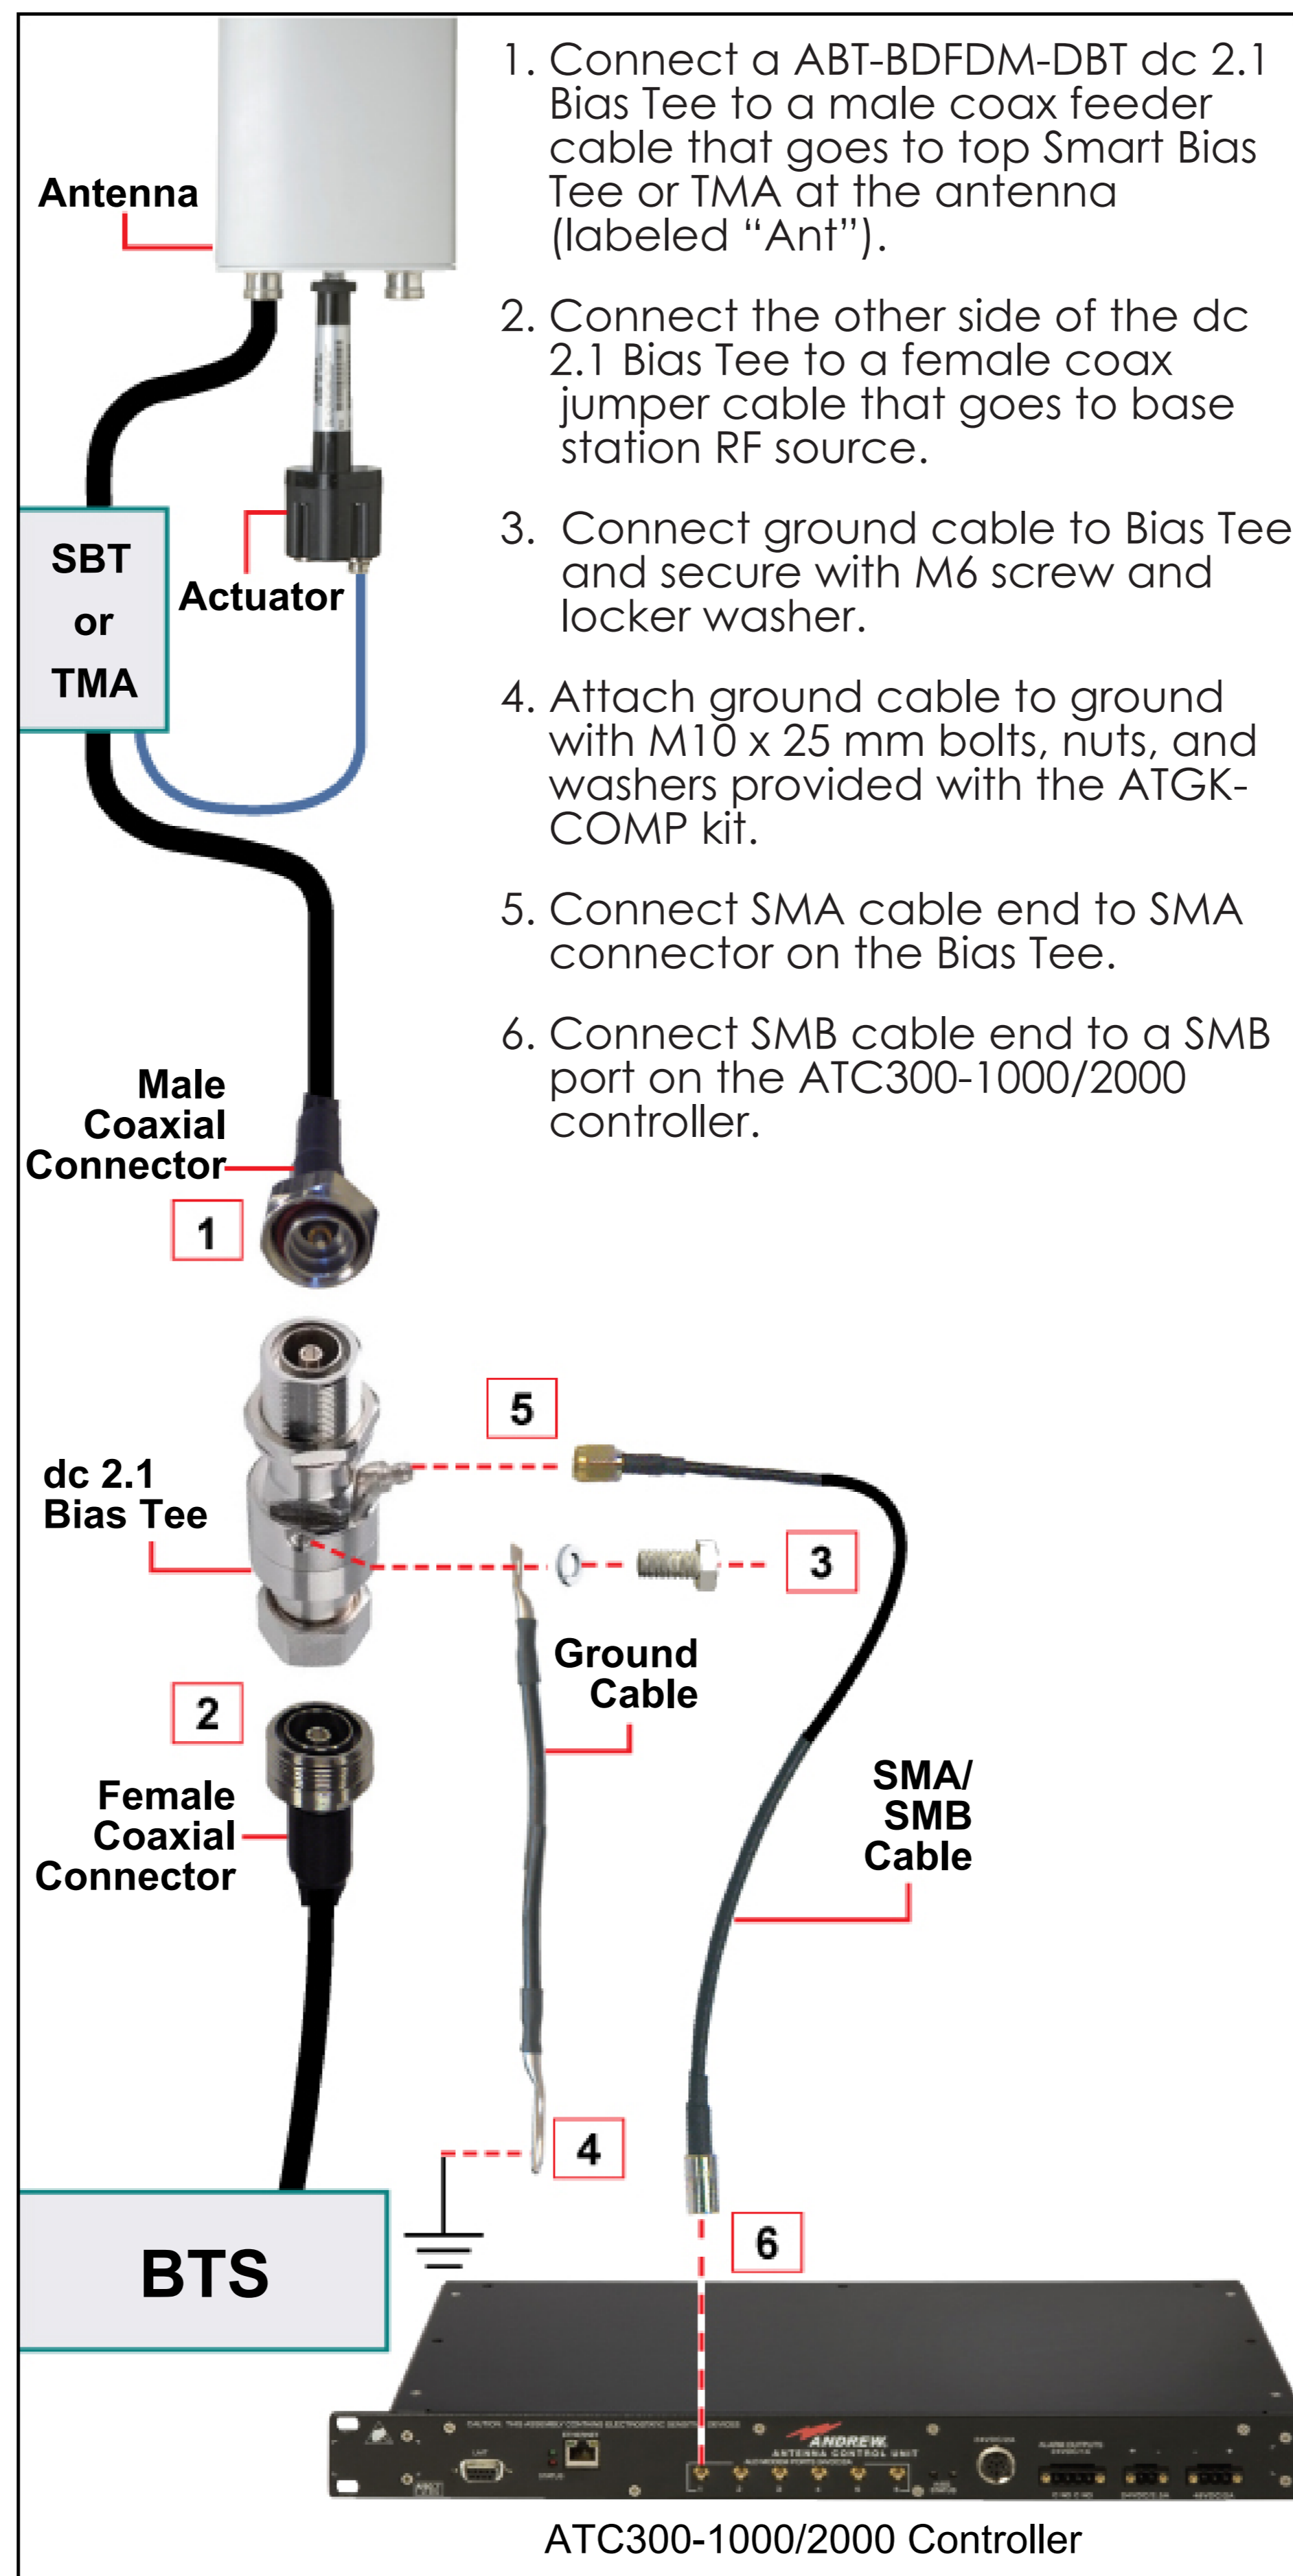

Figure 2. Setting Up The ATBTK-MF-4G
1. Installation of the ATBTK-MF-4G is shown below. Follow steps 1 through 6 in Figure 2.